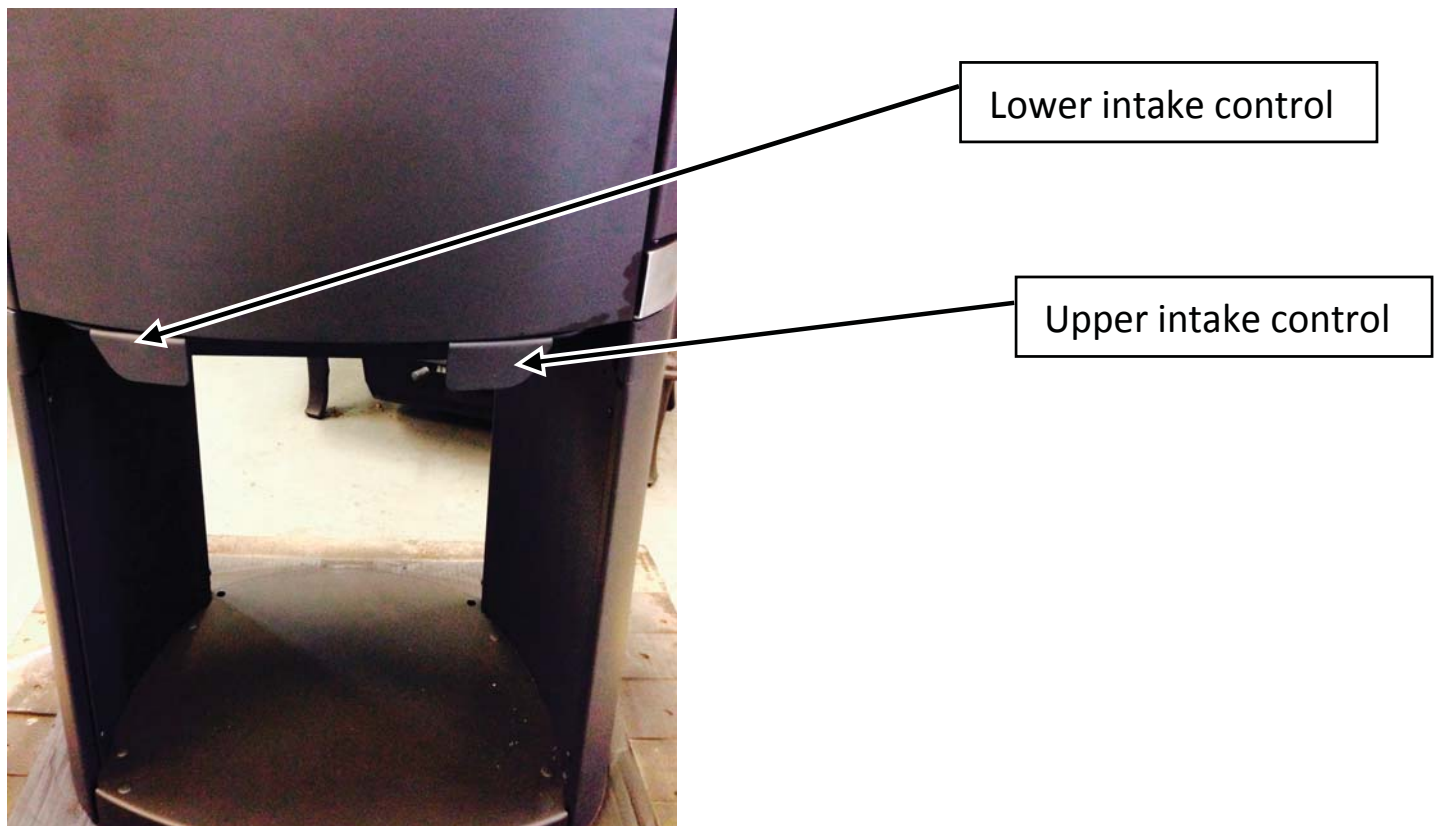

Fig. 12.1: Air Control
E. Primary Air**(Lower Air Control) (Fig. 12.1)**
F. Upper Air Control**(Fig. 12.1)**